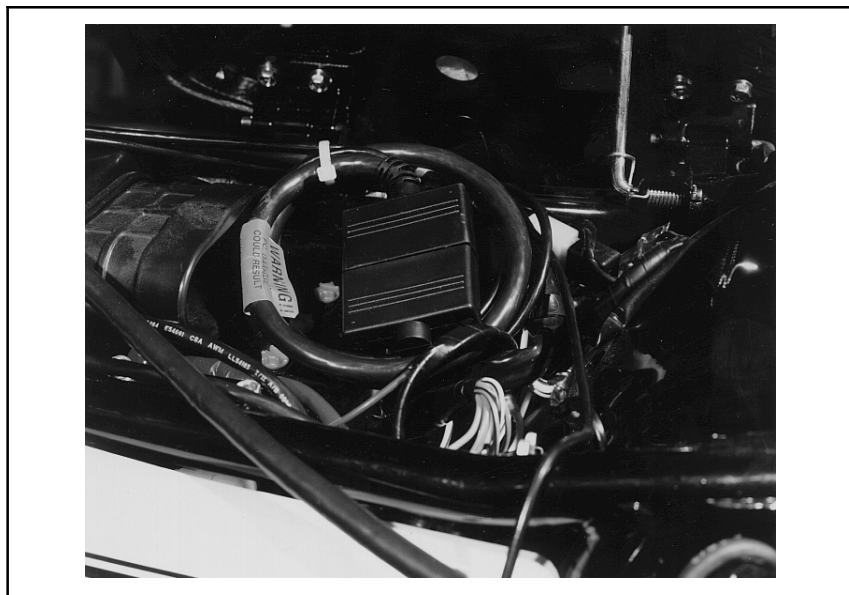

Figure 7-4: Option Cable Stored Beneath Saddle Area
4. Pass the power and control cables through the square hole in the bottom of the radio case assembly to the area beneath the saddle. See Figure 6-4 which shows cable routing under the center of the case assembly. Figure 7-4 shows the cabling underneath the saddle area. (Note the location of the option cable and connector, not being used.)